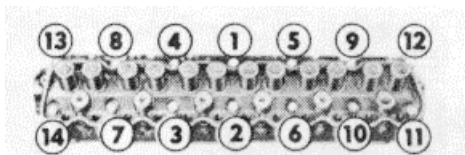

Figure 37. Cylinder Head Bolt Torque Sequence
4. The cylinder head bolts are tightened in three progressive steps. Torque all the bolts in sequence (Figure 37) to specifications. When cylinder head bolts have been tightened following this procedure, it is not necessary to retorque the bolts after extended operation. However, on cylinder heads with composition gaskets, the bolts may be checked and retorqued, if desired. Tighten the exhaust manifold flange attaching nuts to specification.